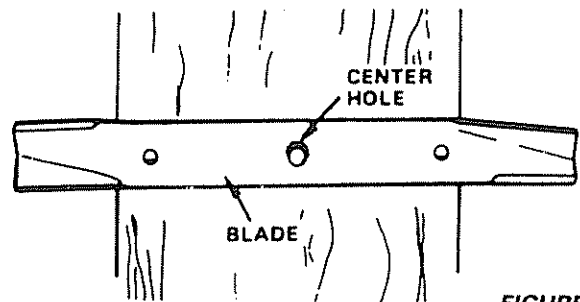

FIGURE 12
- c. To check blade balance, drive a nail into a beam or wall. Leave about one inch of the straight nail exposed. Place center hole of clean blade over the head of the nail (Fig. 12). NOTE: CENTER HOLE OF BLADE ON NAIL, IF BLADE IS PROPERLY BALANCED, BLADE SHOULD REMAIN IN POSITION SHOWN IN FIG. 12. IF EITHER END OF THE BLADE MOVES DOWNWARD, BLADE IS NOT BALANCED. SHARPEN THE HEAVY END UNTIL BLADE IS BALANCED.